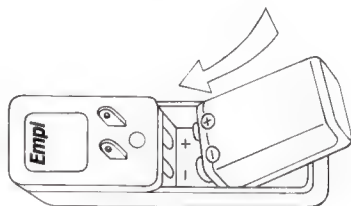

Figure 7. Battery Charger
1. Place the battery in the charger (Figure 7). The battery should slide in easily. If force is required, you may be putting the battery in backwards. Check the "+" and "-" markers.